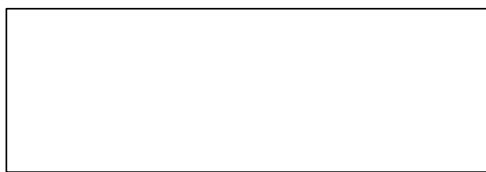

Fig. 2-10 Indication interface of standard concentration
- *When the number of standards more than 3 is used, it is necessary to input according to the method for increasing progressively or decreasing progressively; otherwise, the standard making will fail. During standard parameter processing, the system will indicate the range of concentration of standard which starts thirdly as shown in Fig. 2-10. The system automatically judges the trend of progressive increase or decrease in proper order with the range of concentration of standard which starts thirdly displayed on the right side.*